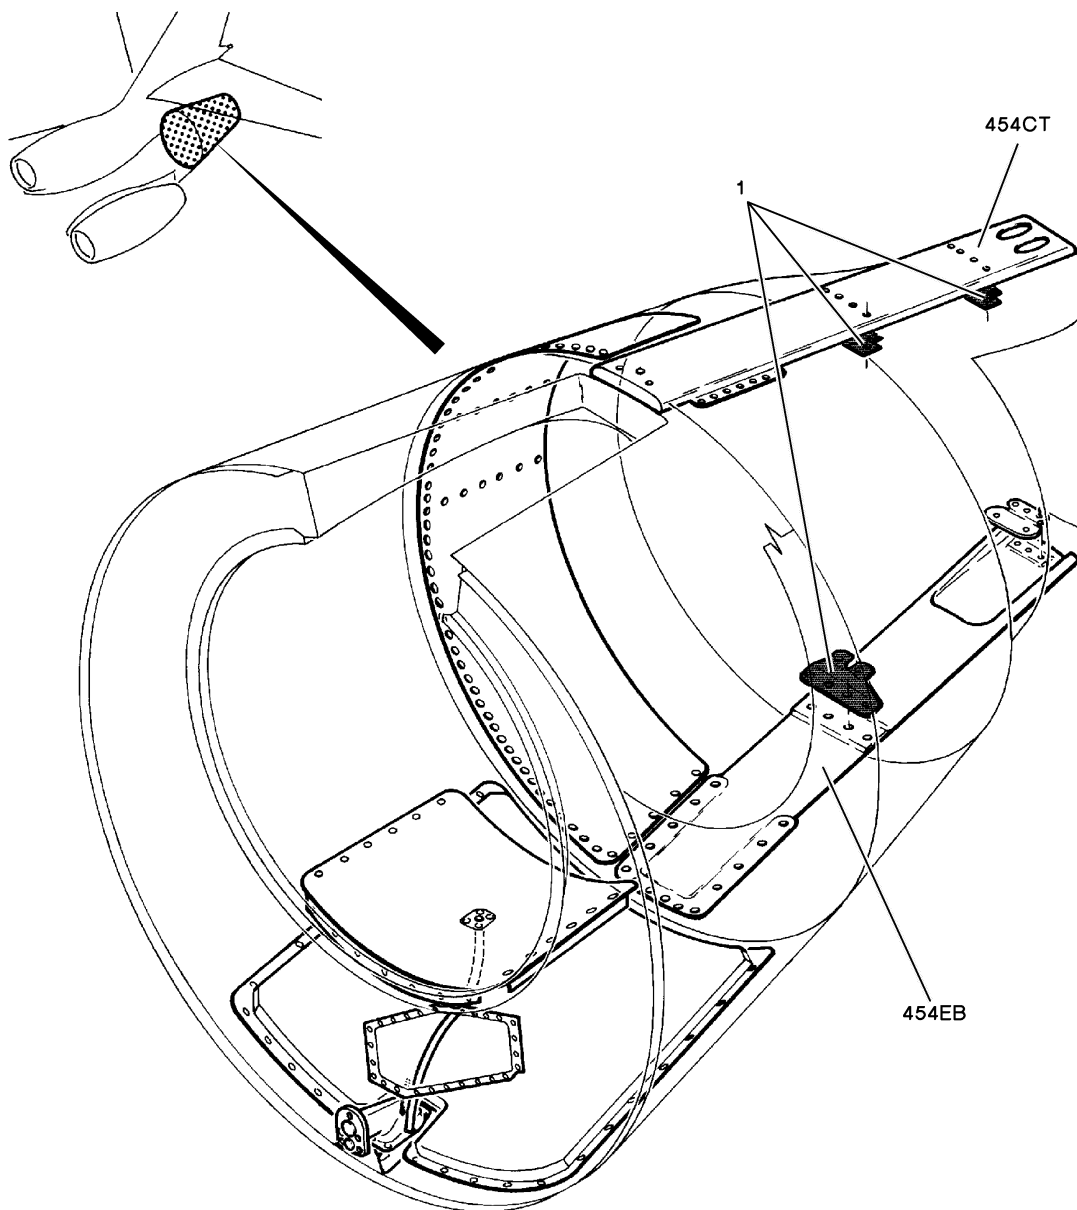

Figure 2: CHECK OF BRACKETS
(1) Check wiring for condition, routing and attachment.
(2) Check wiring connectors for correct connection.
H. Check brackets (1-fig. 2) for damage.